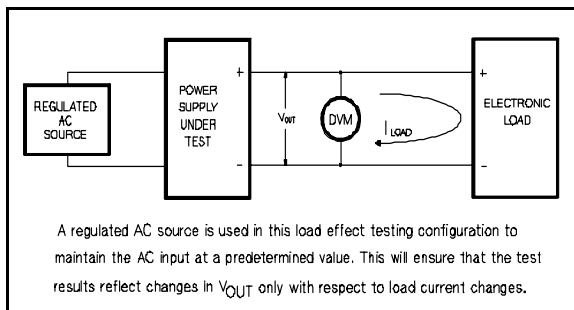

Figure A-6. Basic Test Setup
- a. Connect the test equipment across the output of the +20V supply as shown in Figure A-6. Operate the electronic load in constant current mode and set its current to the full rated value of the +20V supply. Input off the electronic load.
- b. Connect the test equipment across the output of the +20V supply as shown in Figure A-6. Operate the electronic load in constant current mode and set its current to the full rated value of the +20V supply. Input off the electronic load.
- Connect the test equipment across the output of the +20V supply as shown in Figure A-6, but replace the DVM with the oscilloscope. Operate the electronic load in constant current mode.
- Connect the test equipment across the output of the +20V supply as shown in Figure A-6.